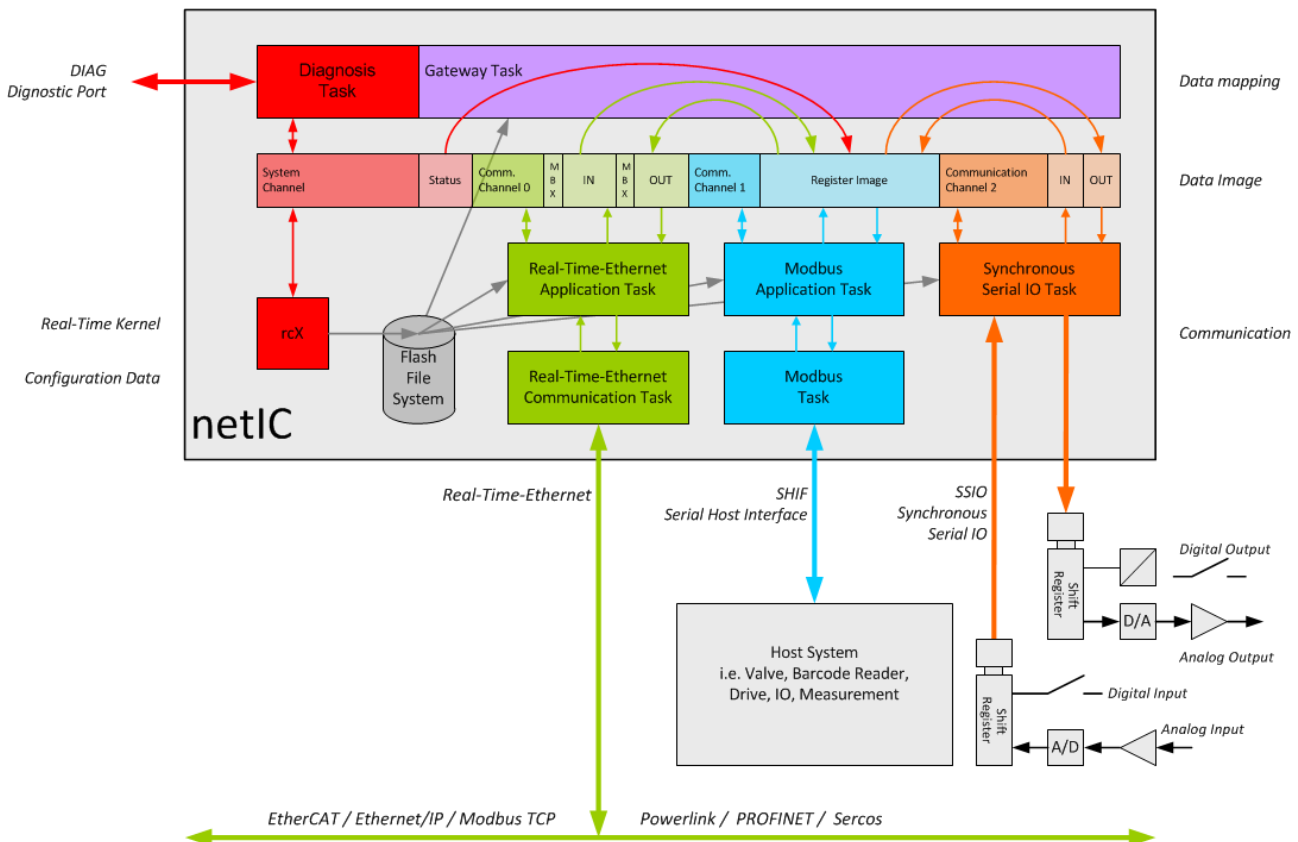

Figure 13: Structure of the Firmware of the Realtime Ethernet DIL-32 Communication IC NIC 50-RE
- The entire software is structured in different tasks running under rcX (see Figure 13 below).